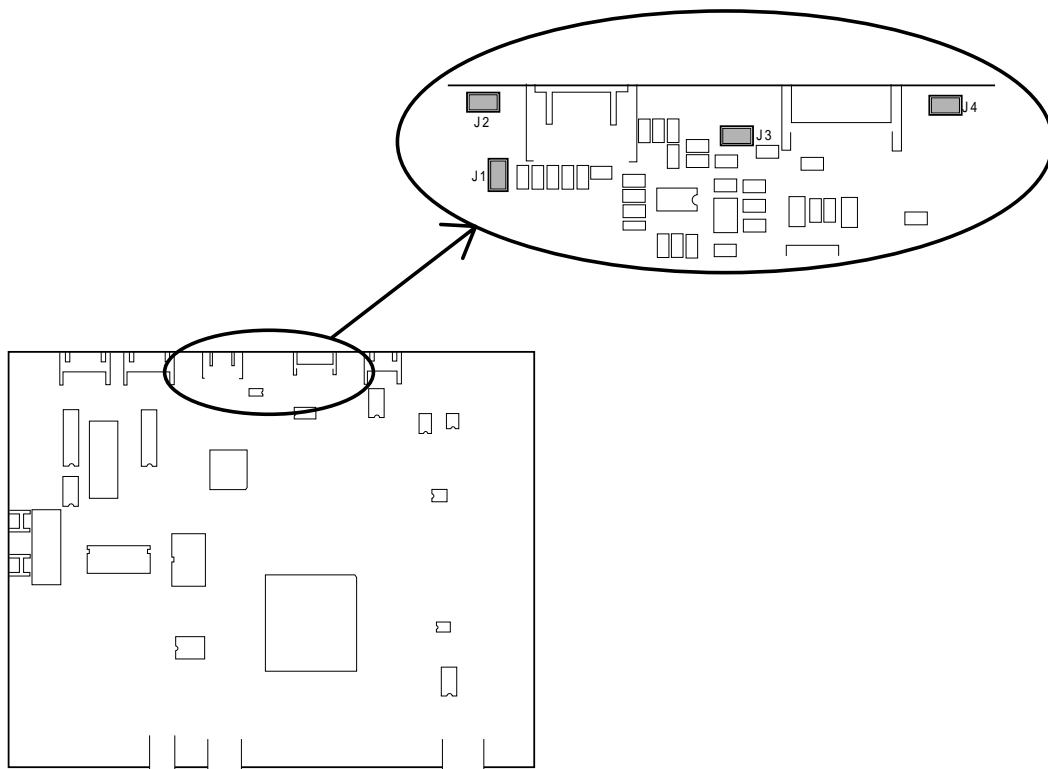

Fig. 1 Main Board Assy
- 2) Connect the probe of an oscilloscope to the Main Board Assy. (See Figure 1.)